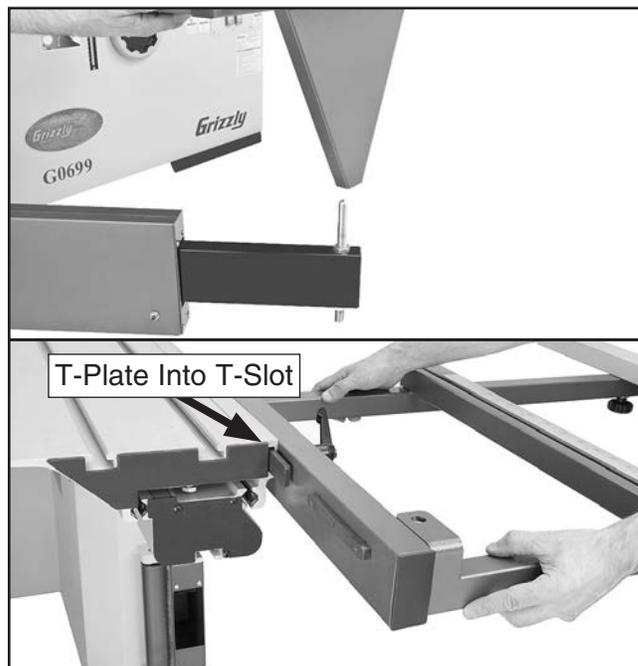

Figure 44. Installing the crosscut table into the sliding table.
49. With the help of another person, place the crosscut table on the swing arm pivot pin, as shown in **Figure 44**, then slide the T-plate into the sliding table T-slot.